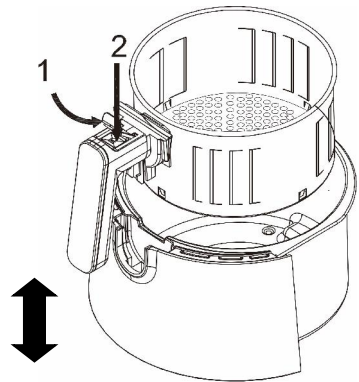

Fig.2
- How remove and fit the frying basket – See fig. 2
12. When frying is complete, remove the basket from the bowl (fig. 2) and empty contents onto a plate or serving bowl.